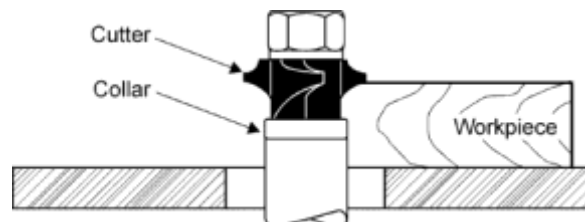

Fig. 37
1. When the collar is used below the cutter, as shown in Fig. 37, the progress of the cut can be seen throughout the operation. However, any accidental lifting of the work will gouge the wood and ruin the workpiece.